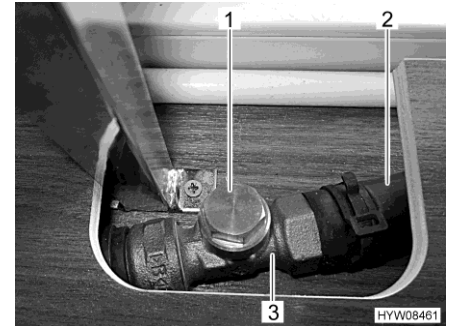

Fig. 180 Throttle (open)
- Touch the bypass line (Fig. 180,2) behind the throttle (Fig. 180,3). The pipe must be warm to the touch.